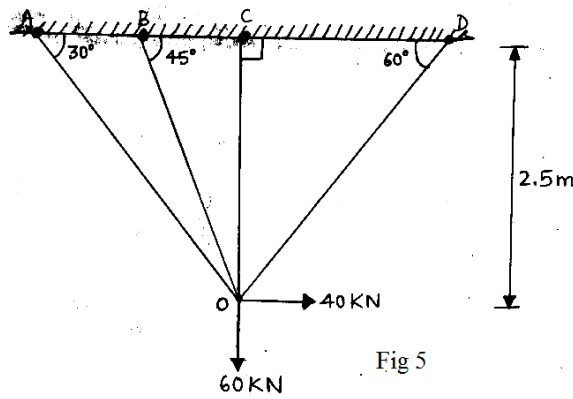

Fig 5
- 5. Analyze the pin-jointed truss shown in Fig. 5 by stiffness matrix method using element approach. Take area of C/S for all the members = 1000 mm2 and modulus of elasticity E = 200 kN/mm2 20